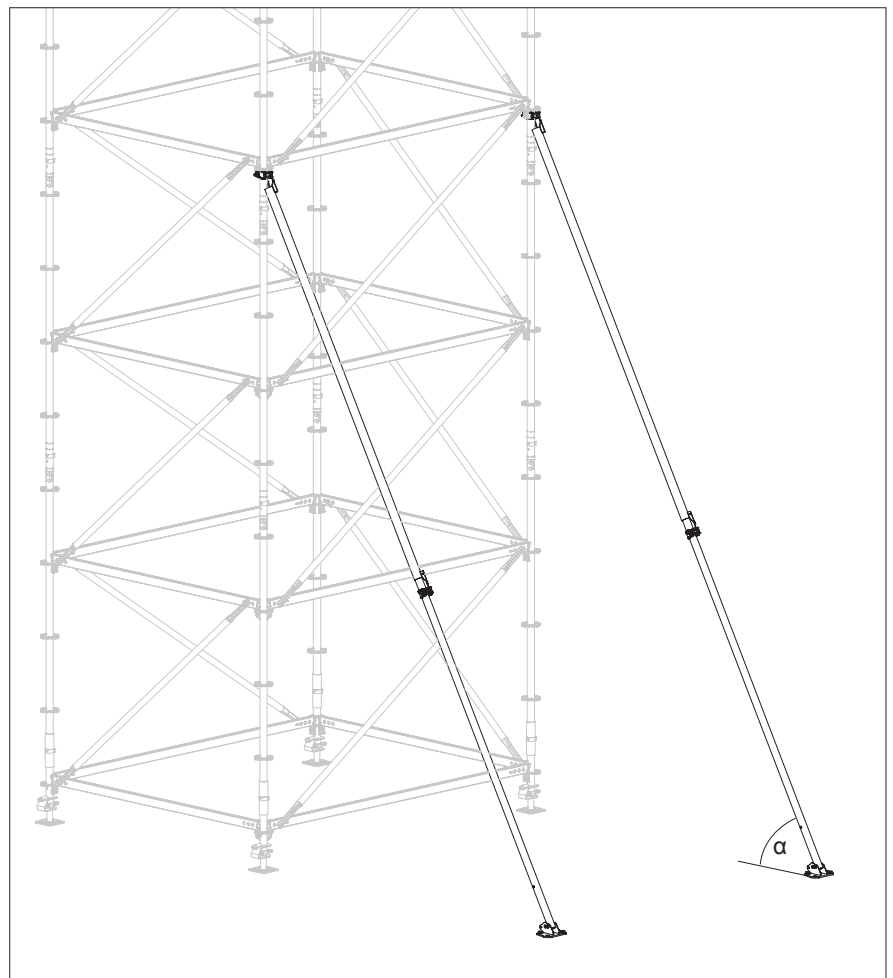

Fig. A15.01a
- The force application must be close to the horizontal ledger. (Fig. A15.01a)